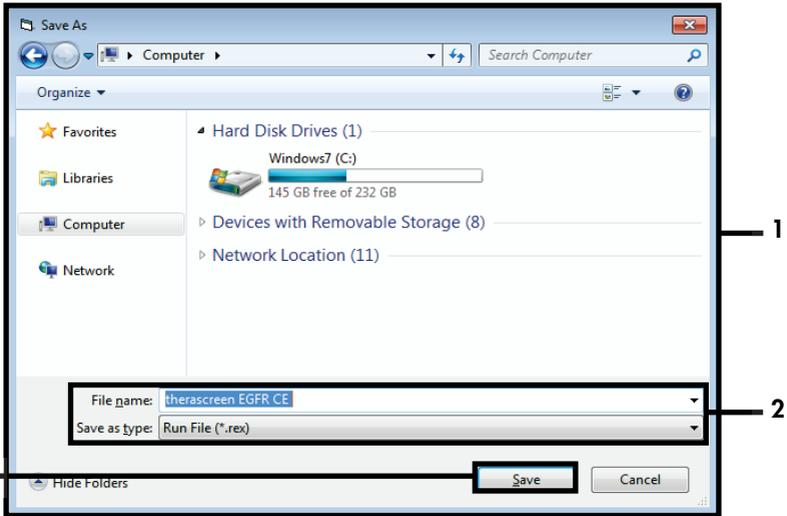

Figure 15. "Save As" window (1). 2 = "File Name" and "Save as type" fields; 3 = "Save."
17. The "Save As" window opens. Enter an appropriate file name and save the PCR run as a *.rex run file to the selected location. Click **Save** (Figure 15).